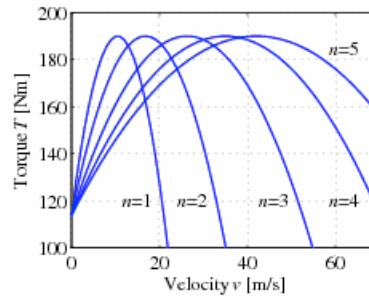

Figure 2: Torque as a function of car speed for different gears. (Figure taken from [1])
- $T(\alpha_n v)$  is the torque of the engine as a function of the gear chosen and the velocity of the engine. The torque curves are nonlinear, see Figure 2. Typically, the torque curves have this form: